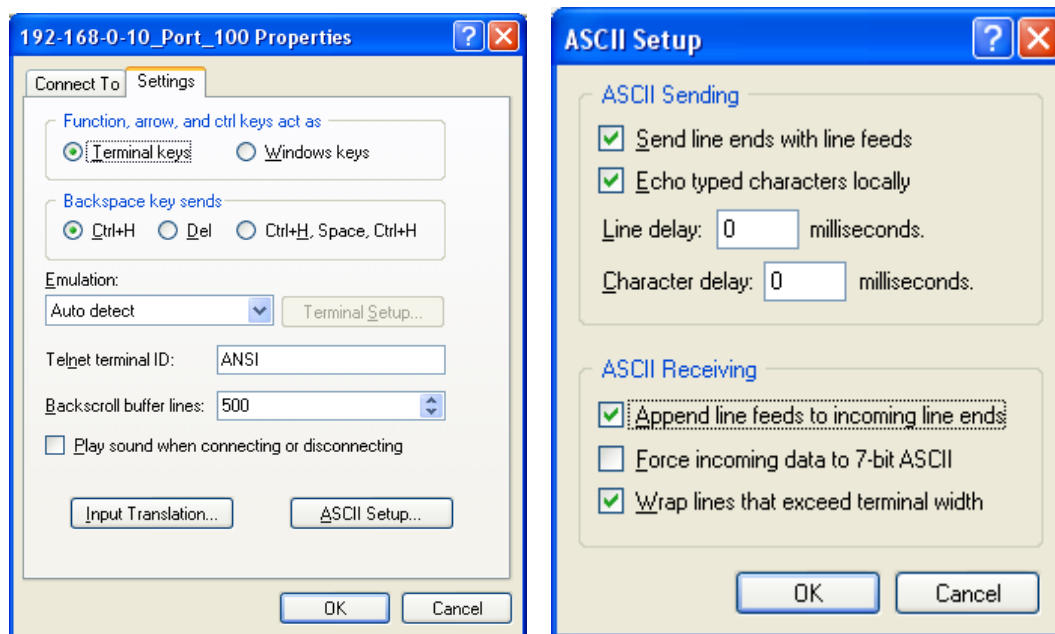

Figure 6-97: ASCII Text Formatting Set Up
4. Next, set up the ACSII text formatting by going to **File>Properties>Settings>ASCII Set**. Make the selections shown in Figure 6-97.